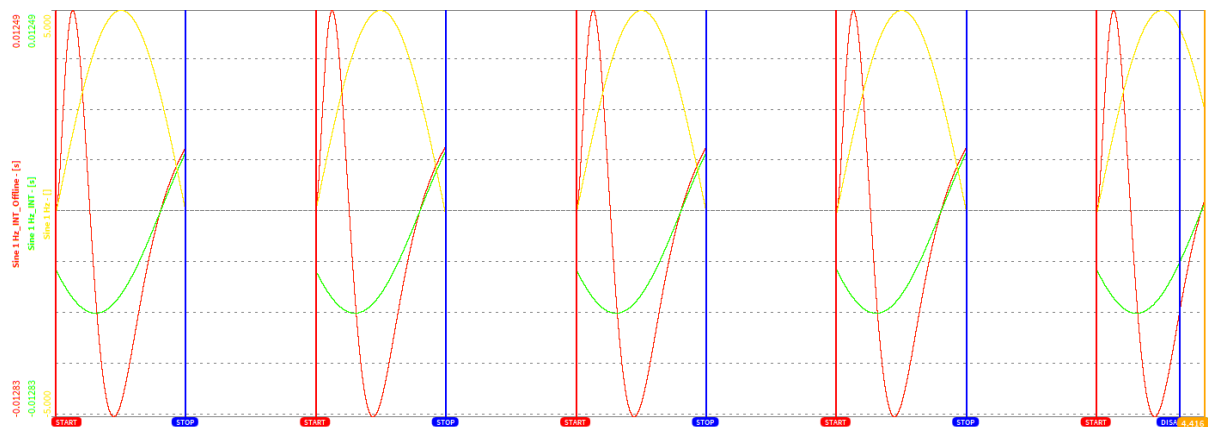

Fig. 7.167: Deviation of Offline and Online Filter channels in case of Event based Waveform recording
- Be aware that an Offline Filter channel will differ from an Online Filter channel, i.e. at the beginning of the file or in case of Event based waveform recording (see *Triggered Events*). In the example displayed in Fig. 7.167, the green channel is an online calculated Integrator applied on the yellow analog channel and the red channel is an offline calculated integrator applied on the yellow analog channel with identical channel settings. The deviation of the green and the red channel happens, because the offline calculated integrator will oscillate at the beginning of each new event, but the online calculated integrator not, because the analog data is always available during online calculation.